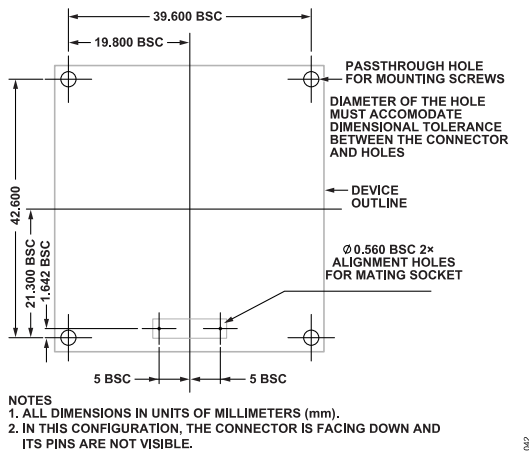
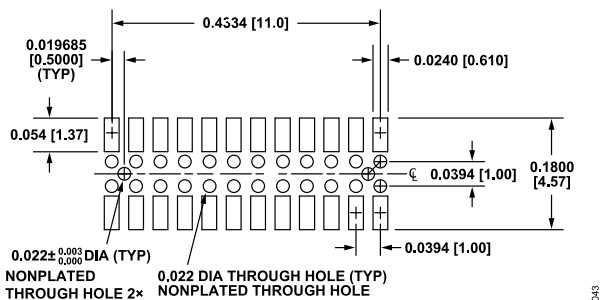

Figure 56. Suggested PCB Layout Pattern, Connector Down
Figure 57. Suggested Layout and Mechanical Design when Using Samtec CLM-112-02-G-D-A for the Mating Connector
- ▶ When mounting the ADIS16545/ADIS16547 on the PCB with a mating connector (see Figure 56), use a diameter of at least 2.85 mm for the pass-through holes.
These guidelines help prevent irregular force profiles, which can warp the package and introduce bias errors in the sensors. Figure 56 and Figure 57 provide details for mounting hole and connector alignment pin drill locations.